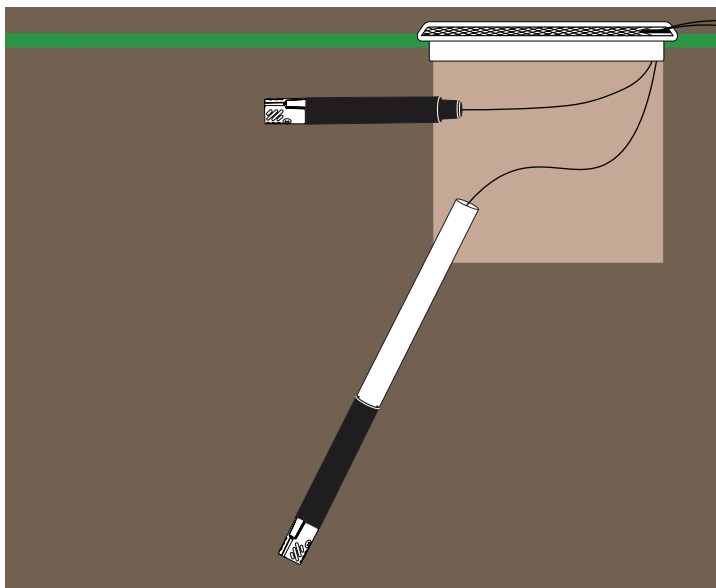

Figure 10 Horizontal installation in trench
When installing horizontally, this will match the measurement depth (Figure 10).
5. Fill the trench or install an irrigation valve box to house the sensor cable (Figure 10).